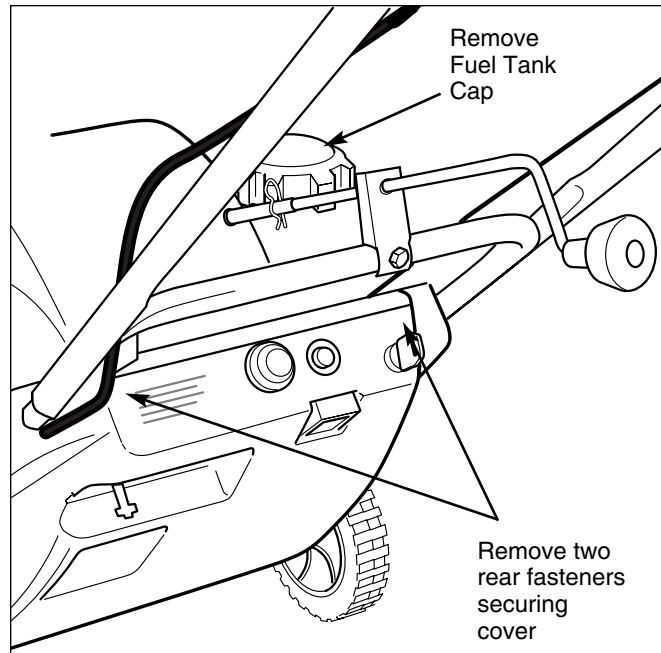

Figure 9. Remove and/or loosen Cover Screws
2. Remove the two rear fasteners securing the back of the cover housing. (Figure 9).
1. Remove the Cover. (See Figures 9 & 10.)